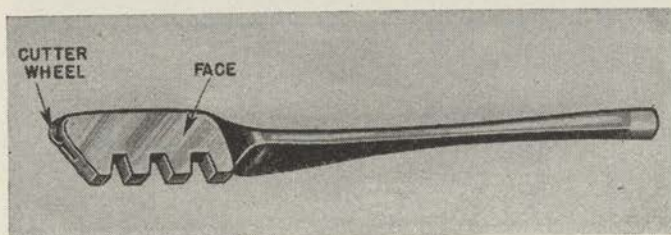

FIGURE 132.—Glass cutter.
(4) *Glass cutter* (fig. 132).—The common glass cutter has a small, sharp, hardened-steel wheel mounted on a pin in a handle. Handles vary in length and size according to the operator's particular prefer-